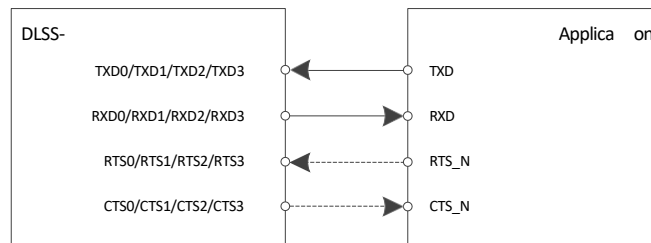

Figure 3: UART Convention and Flow Control
- CTS0, CTS1, CTS2 : Clear-To-Send signals of resp. UART0, UART1, UART2, (active low). To be connected to the CTS of the remote UART device. See Figure 3.
- RTS0, RTS1, RTS2 : Ready-To-Send signals of resp. UART0, UART1, UART2, (active low). To be connected to the RTS of the remote UART device. Tie to a 1 kΩ pull-down when flow control is not used. If connected to an external part (like a RS 232 driver), the user must insure that the part presents a low level to the DLSS-WI01 See Figure 3.
Figure 3 represents the typical implementation for hardware flow control.